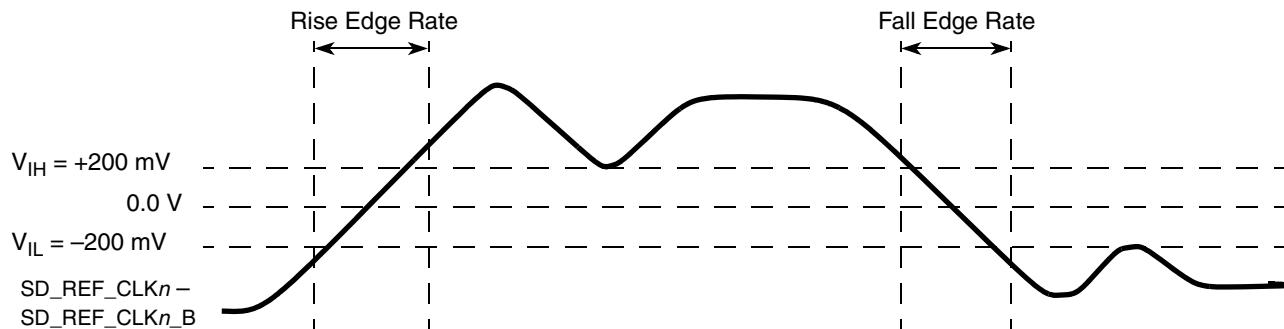

Figure 42. Differential Measurement Points for Rise and Fall Time
- ³ Measured from -200 mV to +200 mV on the differential waveform (derived from SD_REF_CLKn minus SD_REF_CLKn_B). The signal must be monotonic through the measurement region for rise and fall time. The 400 mV measurement window is centered on the differential zero crossing. See Figure 42.